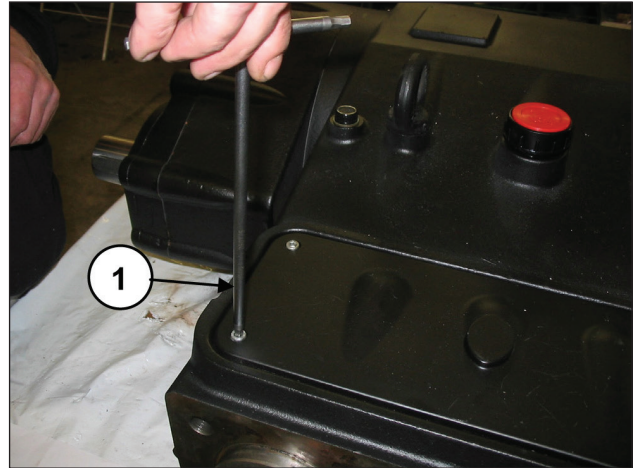

Fig. 122
Remove the upper inspection cover, unscrewing the 4 fixing screws (pos. ①, Fig. 122).